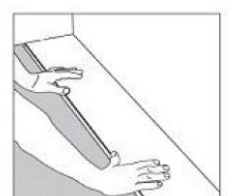

Figure 1
6. Starting from the **Left** with the tongue facing the wall, carefully place the first board in place (**Figure 1**).